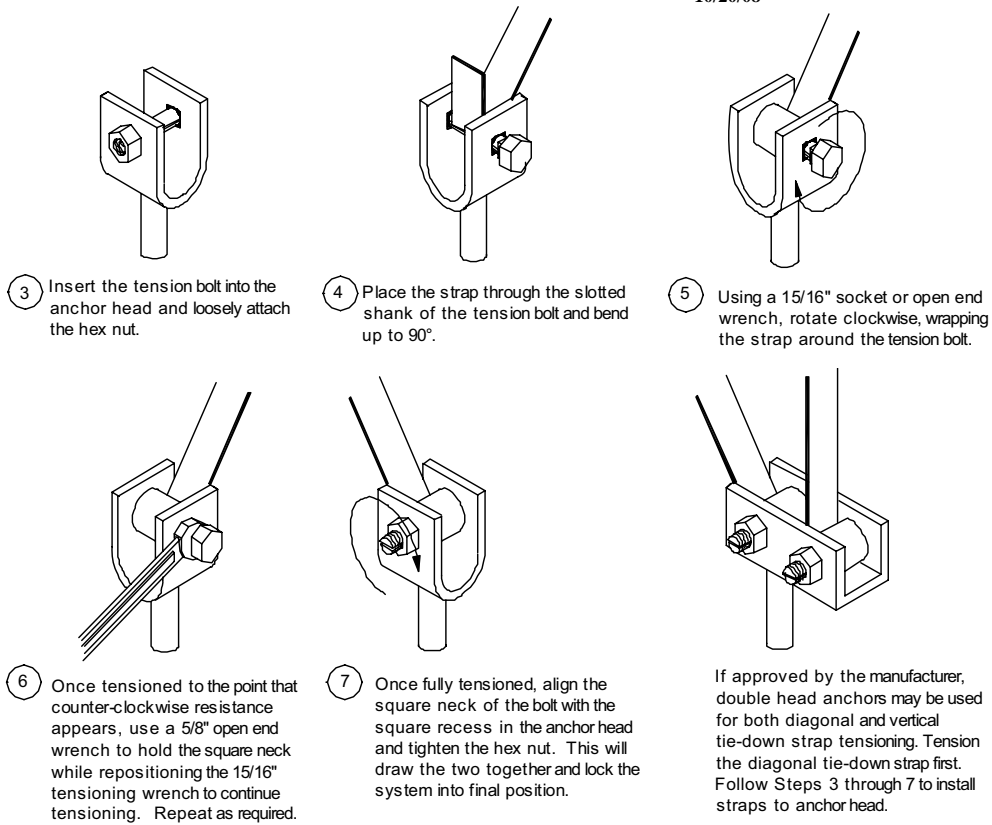

Figure 73. Procedure for connecting the strap to frame and anchor
2. **Connect strap to anchor.** Connect the other end of the strap to the split bolt in the anchor. Leave enough strap length to be able to make at least three, but no more than five complete turns around the bolt before it becomes tight (approximately 2 1/2 inches per turn or 7 1/2 to 13 inches total). Fewer than three turns and the strap may not hold onto the bolt when force is applied. Conversely, more than five turns may not fit within the U-channel of the anchor head. Follow the procedure outlined in **Figure 73**.